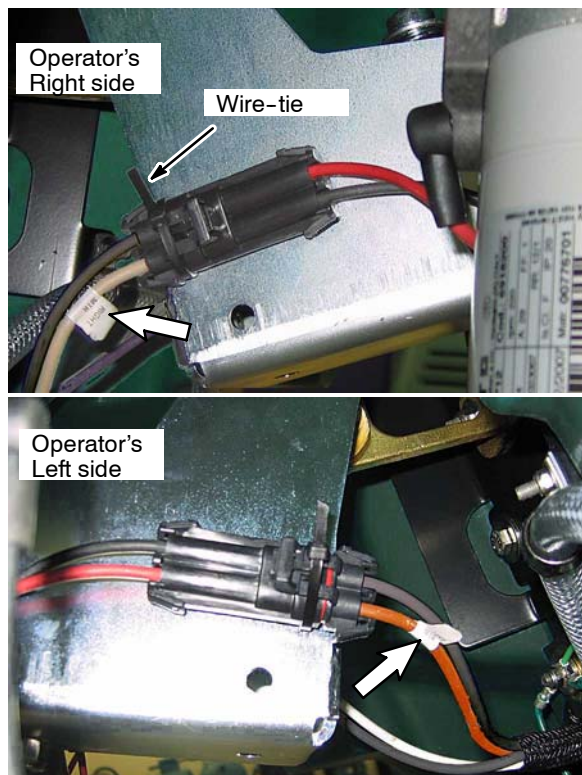

Fig. 5
5. Connect the brush motor wire connectors into the machine's wire harness and secure connectors with wire-tie as shown (Figure 5).